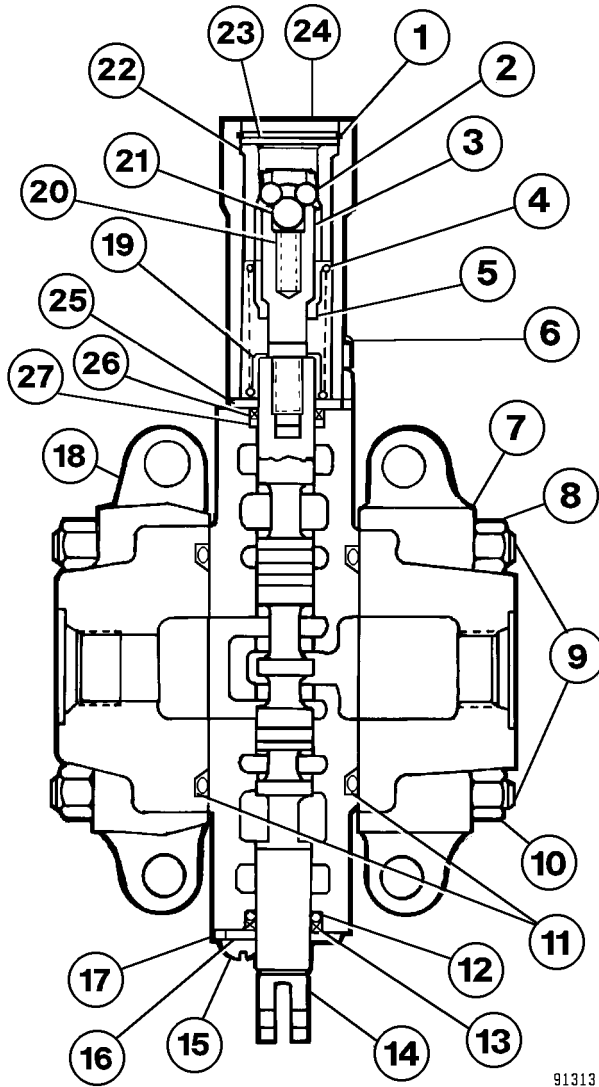
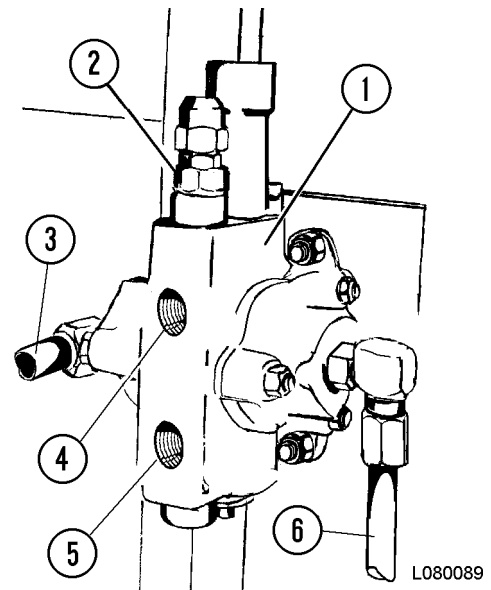

FIGURE 8-13. HOIST PILOT VALVE
FIGURE 8-14. RELIEF VALVE
2. Remove machine screw (15, Figure 8-13), seal plate (16), wiper (13) and O-ring (12).
3. Remove snap ring (1), capscrews (6), cap (24), spacer (23), and detent sleeve (22). Detent balls (2) and (21) will fall free when the cap and detent sleeve are removed. Separate cap (24), spacer (23) and detent sleeve (22), as this will be necessary for reassembly.
4. Carefully slide spool (14) out of spool housing (17). Remove seal retainer (25), wiper (26) and O-ring (27) from the spool.
5. Insert a rod in the cross holes of detent pin (3) and unscrew it from spool (14). Slight pressure should be exerted against the detent pin as it disengages and spring tension is released.
6. Remove spring seats (19), spring (4) and spacer (5).
7. Remove relief valve (2, Figure 8-14) from spool housing (1).
9. Remove nuts (8) and (10, Figure 8-13) and remove tie rods (9). Separate the valve housings. Remove O-ring (11). Remove the poppet check and spring (located on the outlet housing side of the spool housing) from the spool housing.
4. Inspect spool (14, Figure 8-13). The spool must be free of longitudinal score marks, nicks or grooves.
5. Test spool (14) in spool housing for fit. The spool must fit and rotate freely through a complete revolution without binding.
*NOTE: Spool housing (17), spool (14), inlet housing (18) and outlet housing (7) are not serviced separately. If any of these parts require replacement, the entire control valve must be replaced.*
6. Install new O-ring (27, Figure 8-13) and wiper (26). Install seal retainer (25).
7. Install spacer (5), spring seats (19), and spring (4). Thread detent pin (3) into spool (14). Slight pressure will be required to compress the detent spring. Tighten the detent pin to **10 N·m (89 in. lb)**. Install spring (20). Carefully install the spool into the spool housing.
8. Apply grease to the cross holes of the detent pin (3) to hold balls (21) and (2).
9. Slide detent sleeve (22) into cap (24) and place it over a punch. Use the punch to depress ball (21) and insert balls (2) in detent pin cross holes.
10. While holding down ball (21), slide detent sleeve (22) and cap (24) as an assembly over detent pin (3). Continue to insert detent sleeve (22) until it contacts spring seat (19).
11. Secure cap (24) in place with capscrews (6). Tighten capscrews (6) to **7 N·m (62 in. lb)**. Install spacer (23) and snap ring (1).
12. Install new O-ring (12) and wiper (13). Install seal plate (16) and machine screws (15).
13. Using new O-rings, install relief valve (2, Figure 8-14) in the spool housing.